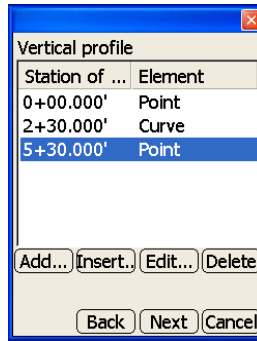

Figure 2-18. Vertical Profile Dialog Box
9. Repeat step 7 on page 2-11 and step 8 on page 2-12 for each vertical element of the alignment. After entering all desired elements, press **Next** to continue (Figure 2-18).